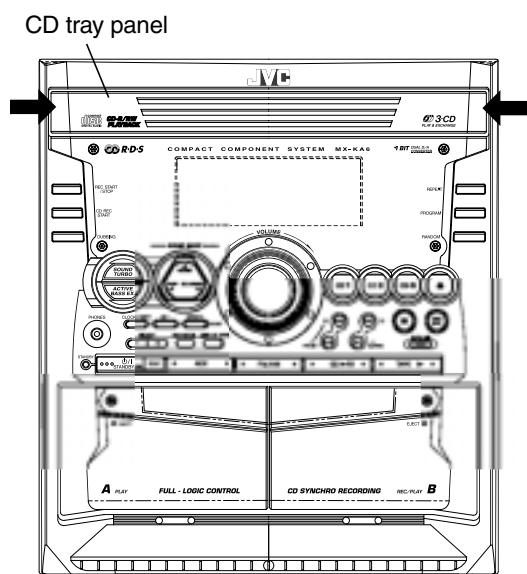

Fig.6
■ Removing the CD changer unit (See Fig.6 to 9)